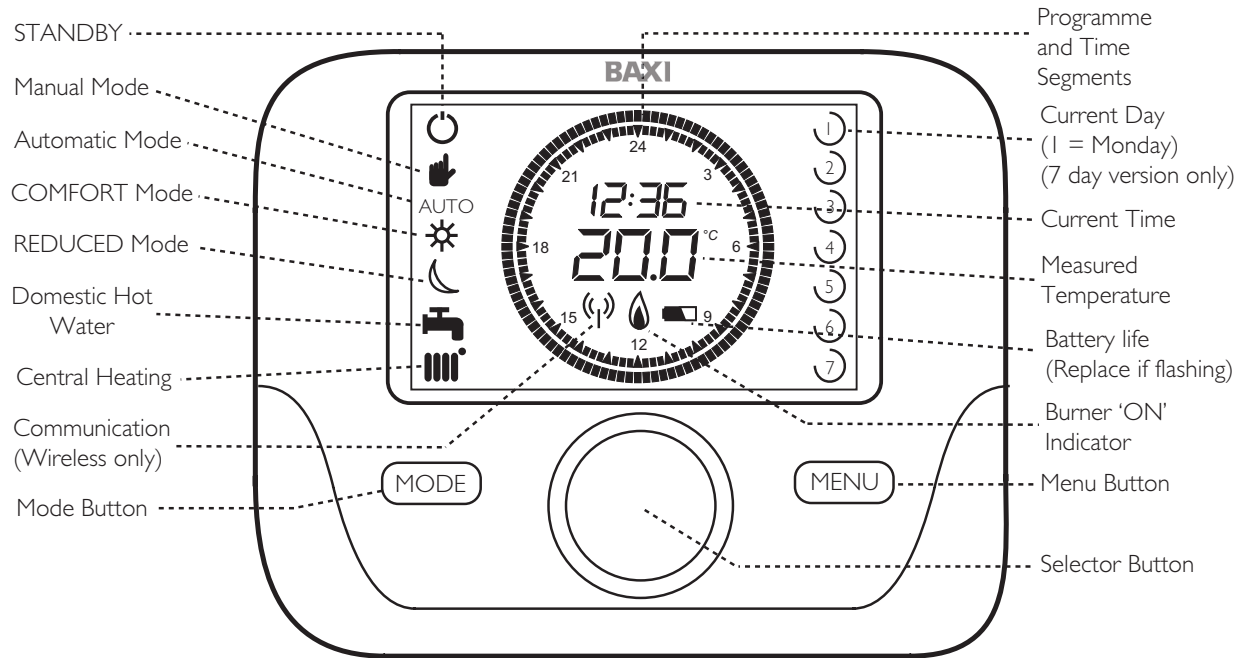
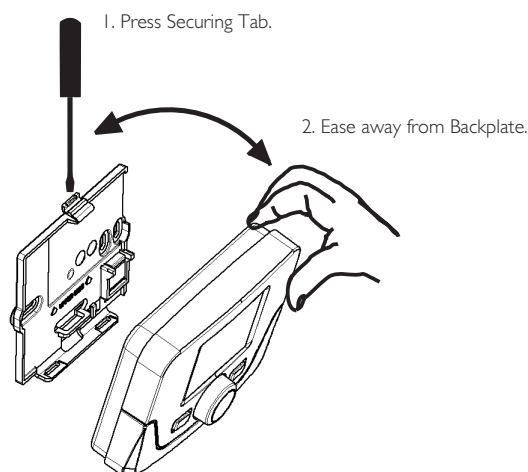

Fig 5. Programmer & Room Sensor front view with functions
Fig. 12. Accessing batteries
1. The units require 2 AA type alkaline batteries (Supplied). Installation of the batteries is shown in Fig. 12.
2. If the battery symbol is seen flashing in the digital display (Fig. 5) the batteries need replacing. See Fig. 12 for details.
2. Remove the backplate from the unit by pressing down on the rear tab and easing apart. Fig. 12.
8. Fit the batteries to the Programmer & Room Sensor. Fig 12.